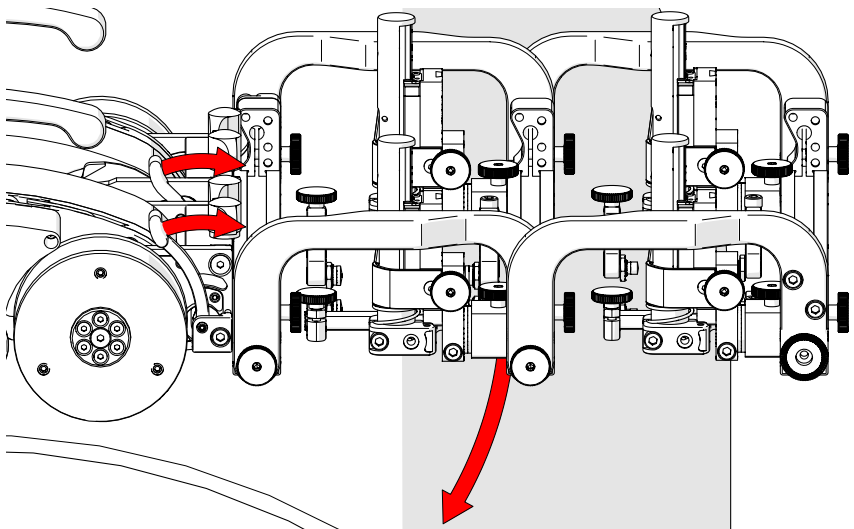
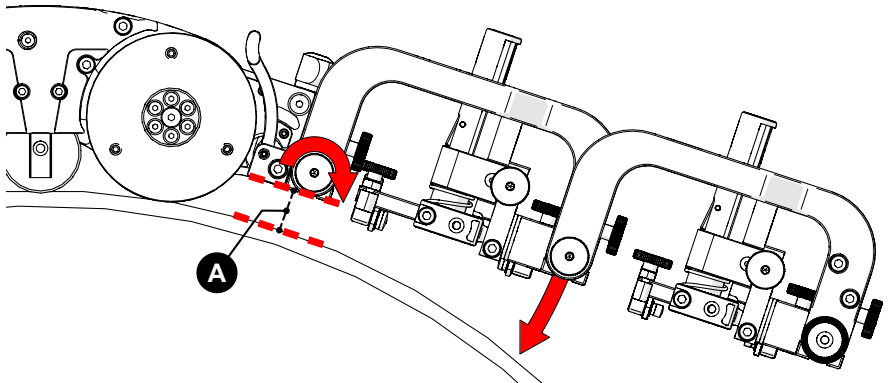
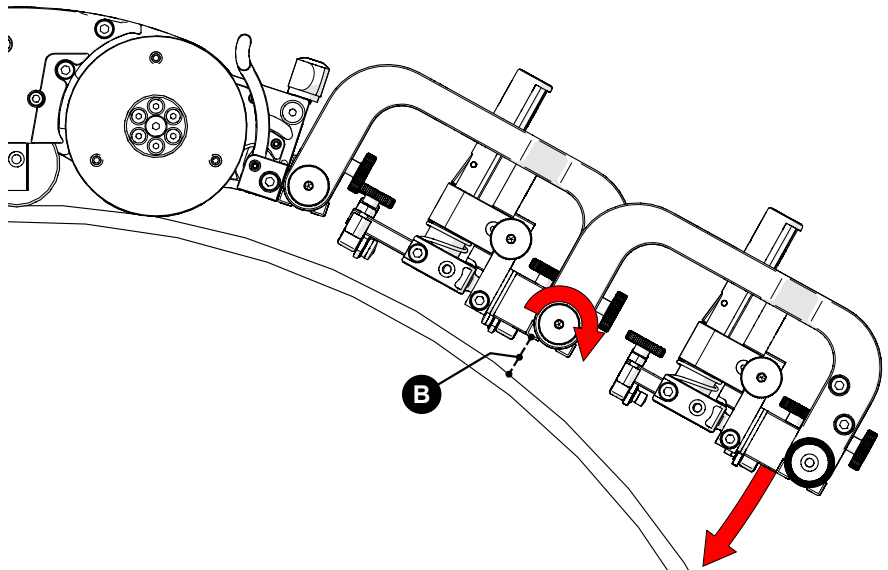
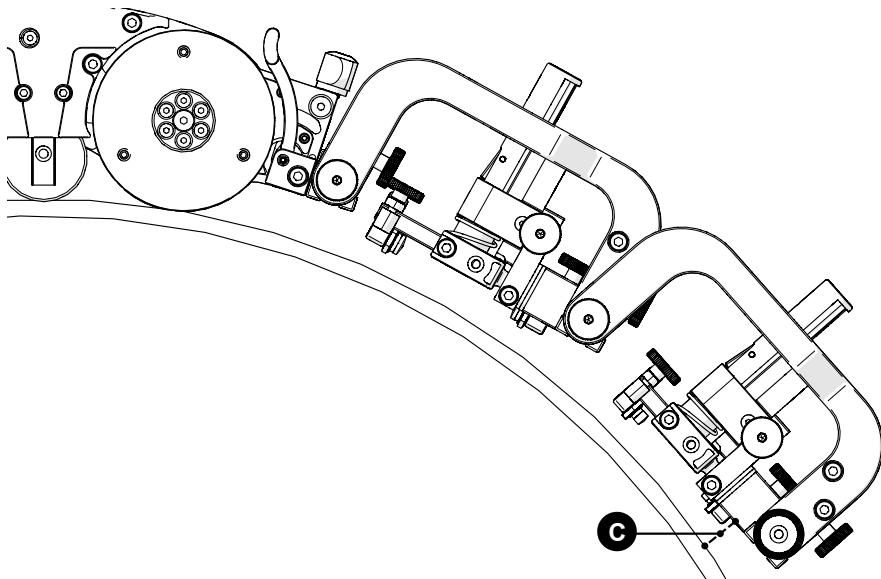

Fig. 255 - Align swivel mount with scan surface
Fig. 256 - Set rear rotational adjustment knob
Fig. 257 - Set front rotational adjustment knob
Fig. 258 - Align probes with the scan surface tangent
4. Release the two swivel mount levers (Fig. 255) to position the swivel mount parallel to the scan surface (Fig. 256). When alignment with scan surface is achieved, lock the crawler swivel mount levers.
5. Loosen the rear rotational adjustment knob to lower the weld scan frame towards the inspection surface (Fig. 256). Ensure gap **B** (Fig. 257) is no smaller than gap **A** (Fig. 256).
6. Loosen the front rotational adjustment knob (Fig. 257) to lower the weld frame towards the inspection surface while ensuring gap **C** (Fig. 258) is no smaller than gap **A** (Fig. 256).